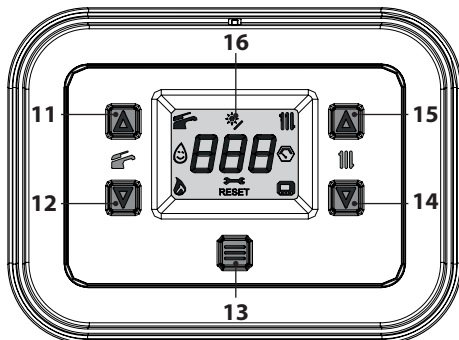
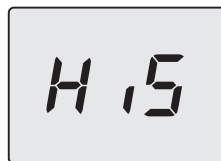
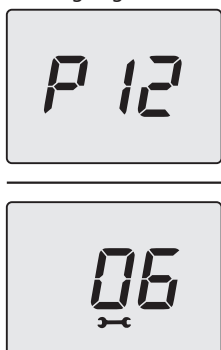

Figure 5.65
Figure 5.66
Figure 5.69
- Enter “programming mode” by pressing the 12 and 14 keys simultaneously for 5 seconds (Figure 5.65) until **HIS** (Boiler History) appears on the LCD display (Figure 5.66).
- Press the 13 key for 1 second (Figure 5.65) to enter the selected parameter. The display will show the following (Figure 5.69).
- Press button 13 (Figure 5.65) to confirm the value entered. The display will show the following (Figure 5.70) for 5 seconds, then move up to the next level.
- Press the keys 12 and 14 simultaneously (Figure 5.65) to exit the level without changing the value (return to the previous level).
- press the 12 and 14 keys simultaneously for 5 seconds (Figure 5.65) (return to previous level).